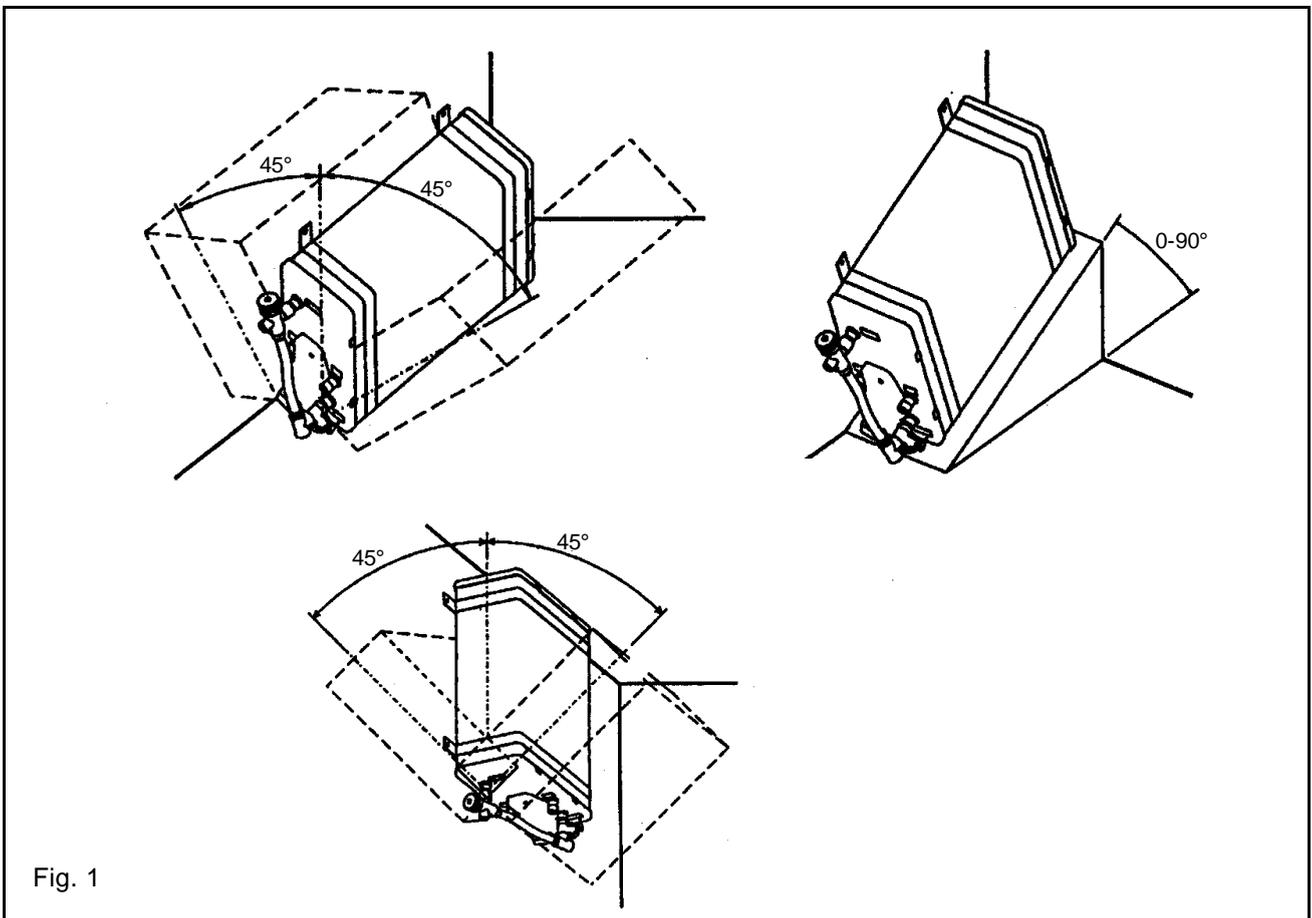

Fig. 1
2. Mounting: The water heater can be mounted horizontal, vertical or leaning with the safety valve with its drainage valve as the lowest point, safely fastened in its mounting brackets. (See fig. 1) The mounting brackets can be turned to fit the bottom or a bulkhead on board. Bear in mind the extra weight of the unit, when full of water.